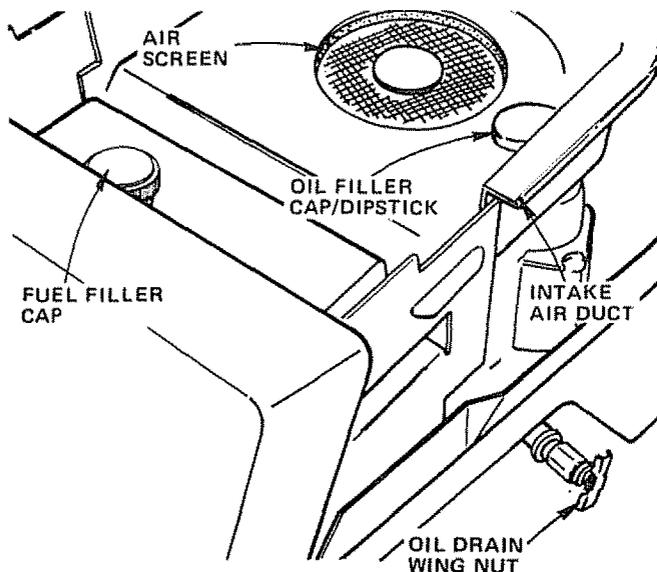

FIGURE 25
- a. Drain Oil with Engine warm, Loosen Oil Drain Wing Nut (Fig. 25) and remove Dipstick. Catch Oil in a suitable container. Tighten Oil Drain Wing Nut.
Air Screen and Intake Air Duct (Fig. 25) must be kept free of dirt and chaff to prevent Engine damage from overheating.